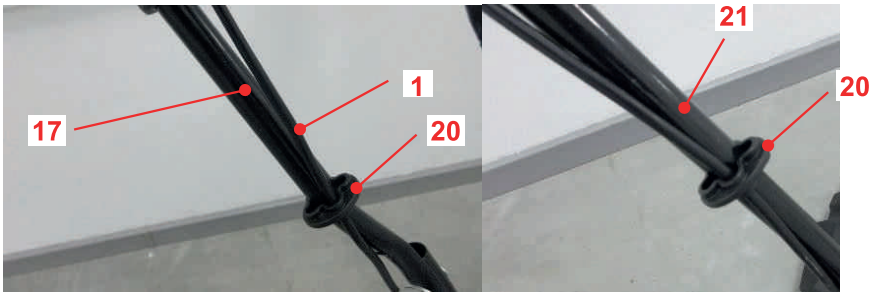

Fig. 23
5. Fix the control cord (1) with the cord clips (20) to the upper pole (17) and lower poles (21) (Fig. 23). Straighten the control cord extended to avoid entanglement / contact with the rear wheels.